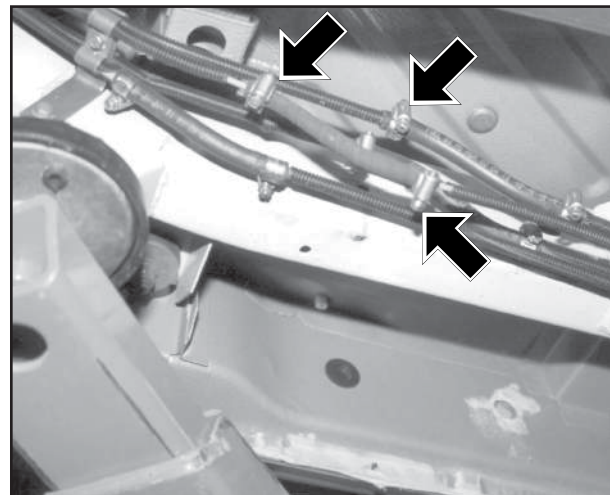

Fig. 5
- Check all the lines for leaks related to the systems like fuel, oil, coolant, vacuum, exhaust and brakes after servicing Fig. 5.